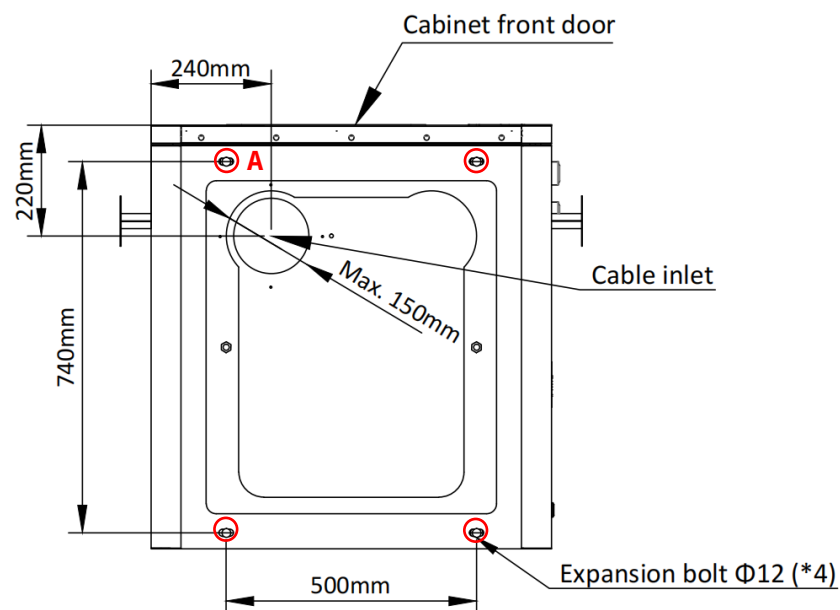

Figure 4.3 Drill Screw Holes for Expansion Bolts Fixing the Charger
- The inlet for the duct at the bottom of the charger is **round shaped** with a **maximum 150mm** diameter to fit 5-inch conduit (also see **Figure 4.3** on page 22). **Additional smaller diameter rings are available** at **TCHARGE®** for adjusting the inlet diameter. Please **contact TCHARGE®** (including that **contact in advance to add the request into your purchase order**) for ordering the cable inlet size that best fits your conduit.
- 1) On the top surface of the concrete foundation (prepared in **Part 4.1**), drill holes for the **M-12 expansion bolts** that would be used to fix the charger to the foundation. Refer to **Figure 4.3** below for relative positions of the holes (red circles):